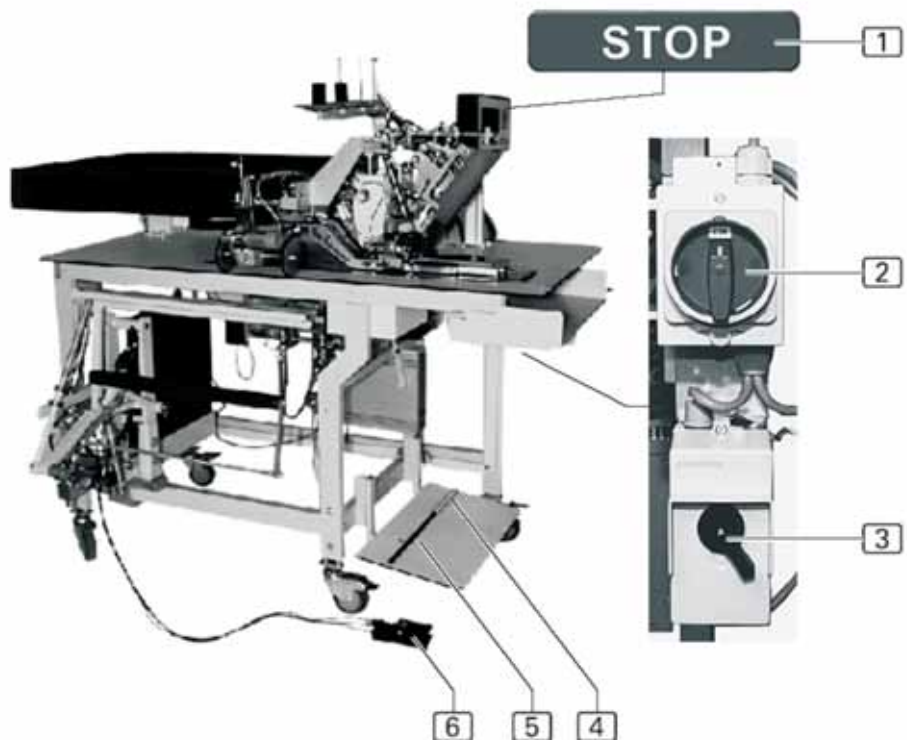

fig. 7
**fig. 7:** The power supply for the machine is switched on and off with main switch [2]. If the machine is out of use for longer periods, for safety reasons the machine must be switched off at the main switch, so that all functional units are deactivated. The main switch is also used as an emergency-off-switch. It is installed on the left side of the machine frame beneath the work surface.